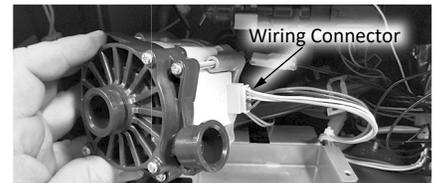

Figure 80: Recirculation pump wiring connector.
- 8 Unplug the wiring to the recirculation pump and remove it from the water heater. See Figure 80.
- 9 Connect the wiring removed earlier to the new recirculation pump. See Figure 80.